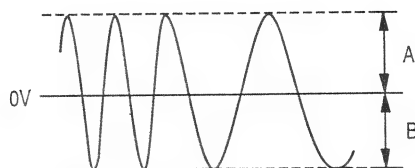

Fig.12 Balancing of Waveform
- 5) Adjust VR206(MD) so as to become $A=B$. (Refer to Fig. 12.)